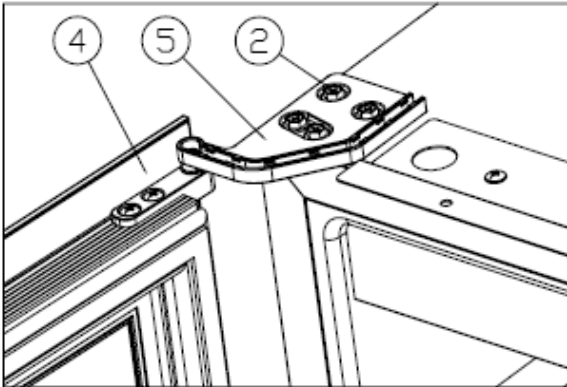

Figure 6
- ✧ Turn the door (4) 180 degrees, and insert the right lower hinge, screw tight M5*16 screws (2). [Figure 6] Door reversing is finished.